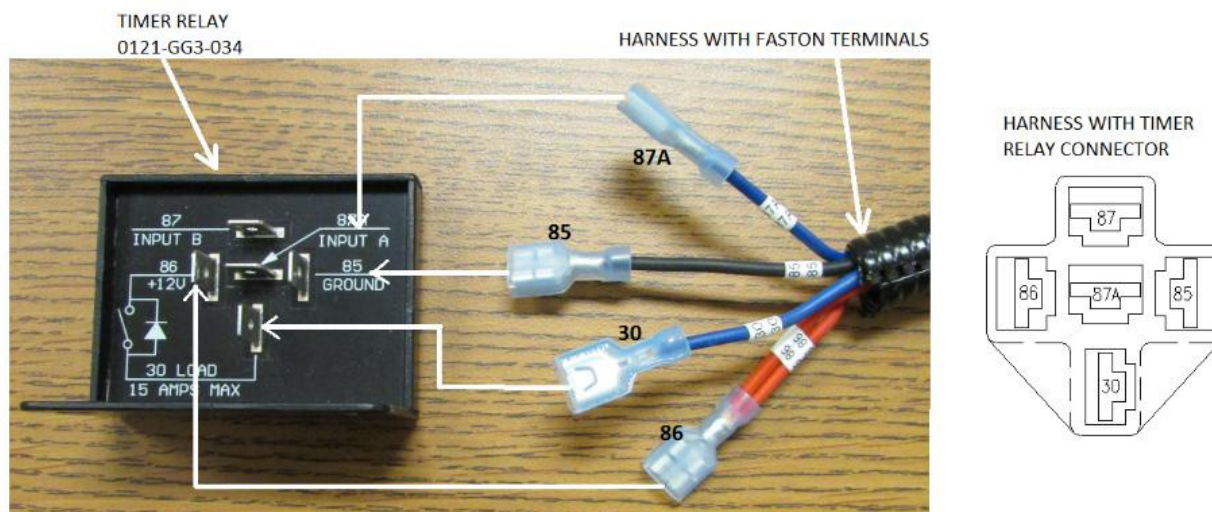

FIG. 2-2
5. Attach 0121-GG3-034 timer relay to the 3900-GG5-002 Hadley relay harness if not already attached (if the harness has single Faston terminals, plug terminals onto the corresponding number as shown on the tag). Refer to FIG. 2-2.